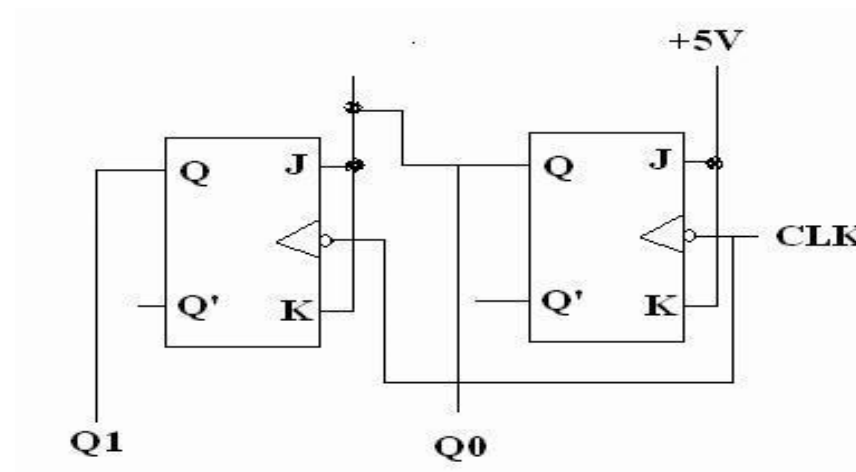

Figure 5.17: 2-bit Synchronous Counter.
1. Use the KL-33009 module to implement the 2-bit synchronous counter shown in Figure 5.17.
**Task 2:** Modify the circuit in *Figure 5.17* to be a 3-bit **Synchronous Counter**. Attach the design with this experiment report.